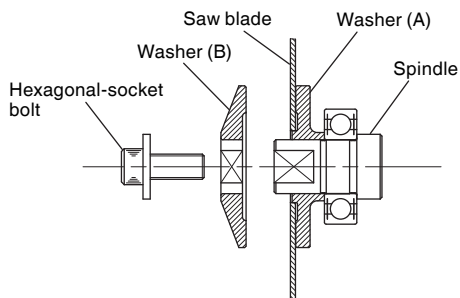
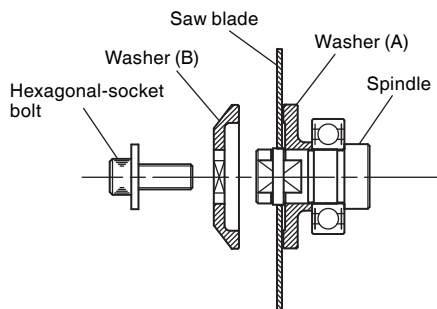

Fig. 8-1
Fig. 8-2
- (1) Thoroughly remove any sawdust which has accumulated on the spindle, bolt and washers.
- (2) For saw blades with hole diameters of 20 mm and 30 mm, as shown in **Fig. 8-1**, the side of Washer (A) with a projected center the same diameter as the inner diameter of the saw blade and the concave side of Washer (B) must be fitted to the saw blade sides. For saw blades with a hole diameter of 15.9 mm, as shown in **Fig. 8-2**, the concave side of Washer (A) and the concave side of Washer (B) must be fitted to the saw blade sides.
- \* Washer (A) is supplied for 2 types of saw blades with the hole diameters of 20 mm and 30 mm. (When buying the Circular Saw, one type of washer (A) is supplied.)